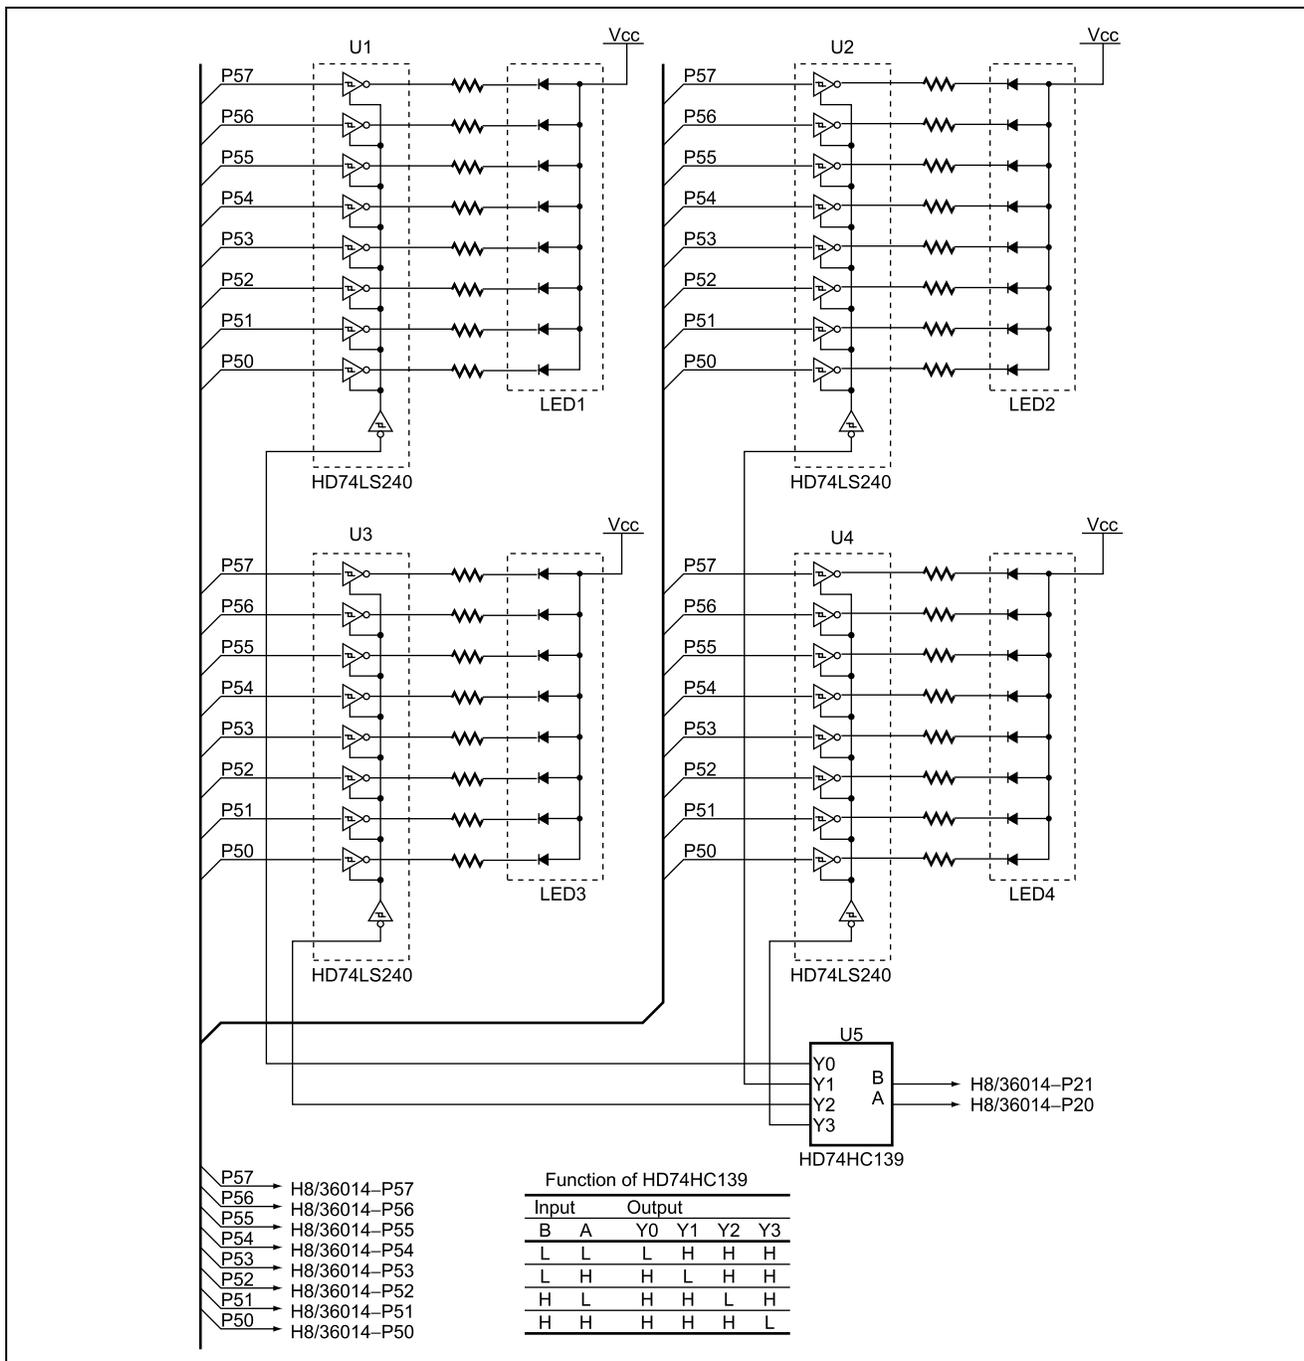

Figure 1.4 Control of Seven-Segment LEDs
8. In this sample task, display on the 7-segment LED is handled by attaching port outputs from the microcontroller to the inputs to the tri-state-output inverter drivers (HD74LS240), the outputs from which are in turn connected to the cathodes of the 7-segment LEDs. The same eight port-output pins are used to control the display on each of the four 7-segment LEDs. The enable pins of the tri-state inverter driver control switching between the 7-segment displays. The signals used to switch between the displays are generated by a 2-to-4-line decoder (HD74HC139), which is controlled by two port-pin outputs. Figure 1.4 shows how the 7-segment LEDs are controlled.